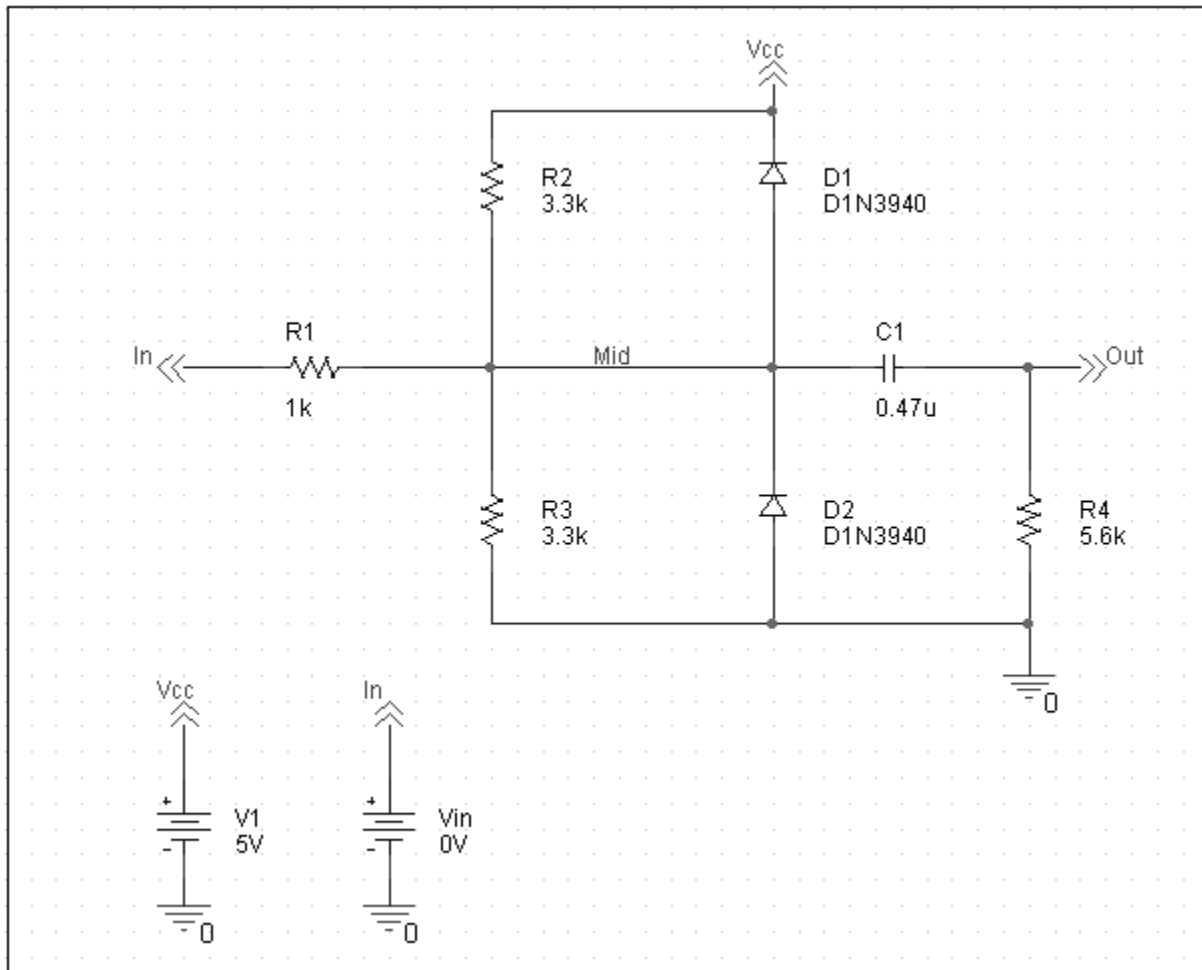

Figure 2-1 Diode clipper circuit.
This section describes how to use OrCAD Capture to create the simple diode clipper circuit shown in Figure 2-1.
6. Move the pointer to the correct position on the schematic page (see Figure 2-1) and click to place the first part.
- You will change part names and values that do not match those shown in Figure 2-1 later in this section.
2. Follow similar steps as described for the diodes to place the parts listed below, according to Figure 2-1 on page 78. The part names you need to type in the Part name text box of the Place Part dialog box are shown in parentheses:
- resistors (R)
- capacitor (C)
5. Place the off-page connector parts according to Figure 2-1 on page 78.
3. Place the 0 ground part from `SOURCE.OLB` as shown in Figure 2-1 on page 78.
6. Continue connecting parts until the circuit is wired as shown in Figure 2-1 on page 78.
Label the off-page connectors as shown in Figure 2-1 on page 78.